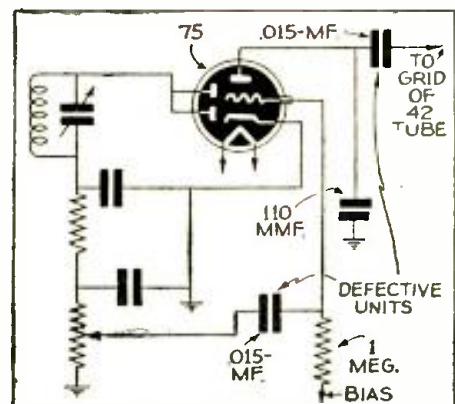

Fig. 1. Defective coupling condensers cause distortion.
**Philco Model 610.** This receiver has the unusual trouble of a badly distorted and wobbly signal. The distorted signal leads one to believe immediately that either the coupling condenser between the volume control rotor and the control-grid of the type 75 tube, or the condenser between the plate of this tube and the control-grid of the type 42 output tube, is open-circuited. The trouble is usually in the coupling condenser between the plate of the 75 tube and the control-grid of the 42 tube (Fig. 1), but in checking it, be careful to take it out of the circuit and replace with a new 0.015-mf. or 0.02-mf., 600-volt condenser. This condenser becomes leaky so just bridging it with a new condenser will not remedy the trouble.
**L**AST MONTH the Public Address angle of the RCA radio sliderule was discussed; in that Part, the line of demarcation between the sections of the sliderule may be determined, in Fig. 1, by close inspection—the fine lines "heavy up" a bit where Scale B meets Scale A on one side and Scale C meets Scale D on the other (Scales B and C being on one middle, sliding strip).